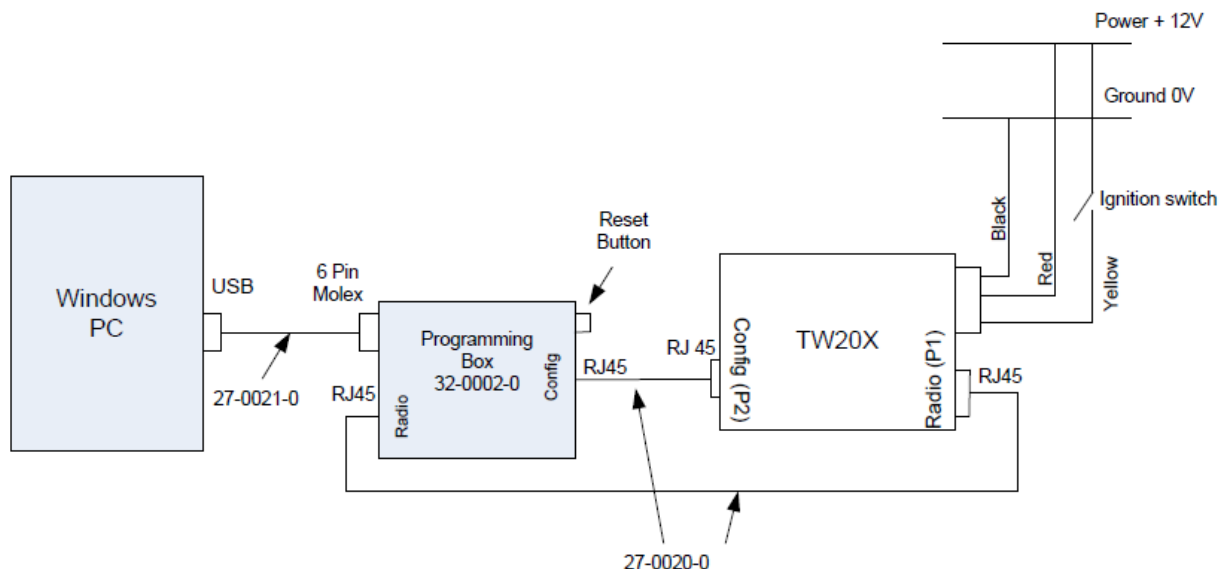

Figure 27 - TW200 Firmware Programming
- 2) The TW200 and the Programming Kit should be set up as shown in Figure 27.